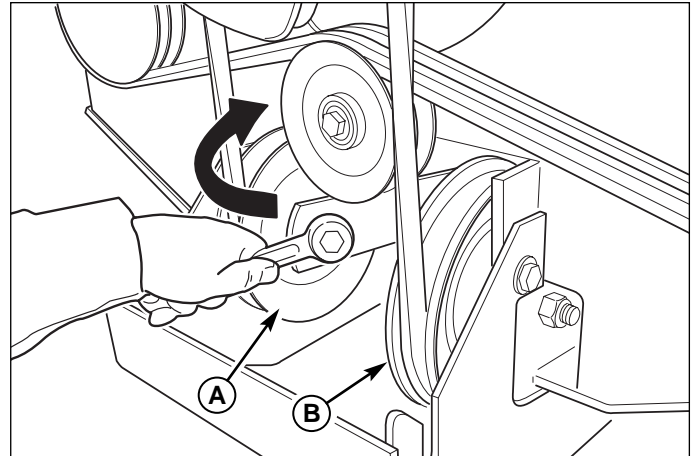

Figure 48. PTO Drive Belt Removal
4. Using a 3/4" box end wrench on the nut of the spring-loaded idler pulley (A, Figure 48), rotate the wrench **CLOCKWISE** to release the tension on the PTO drive belt.
5. Remove the belt from the stationary idler pulley (B, Figure 48).
4. Using a 3/4" box end wrench on the nut of the idler pulley (A, Figure 48), rotate the wrench **CLOCKWISE** and install the belt on the stationary idler pulley.